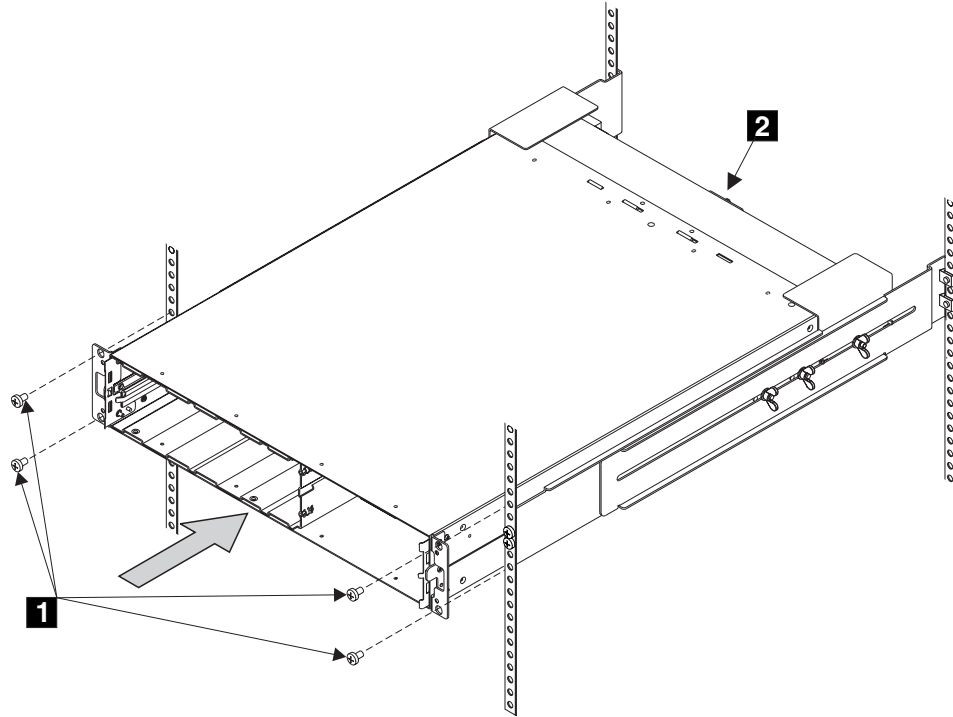

Figure 121. Replacing the uninterruptible power supply into a rack
5. Install the front flathead screws **1** (see Figure 121).